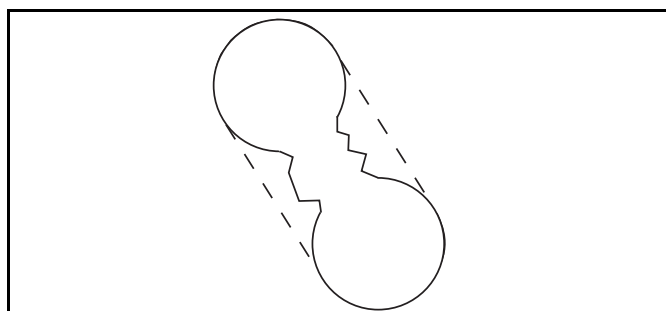

Figure 6
Refer to Figure 6
3. Make one upper and one lower tangent lines between the two holes. See Figure 6 for example.